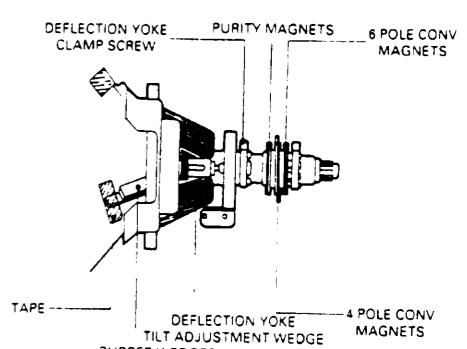

Fig 5.
- 1: Check for correct location of all neck components (see fig. 5).
- 4: Loosen the deflection yoke tilt adjustment wedges (3), loosen the deflection yoke clamp screw and push the deflection yoke as close as possible to the CRT screen.